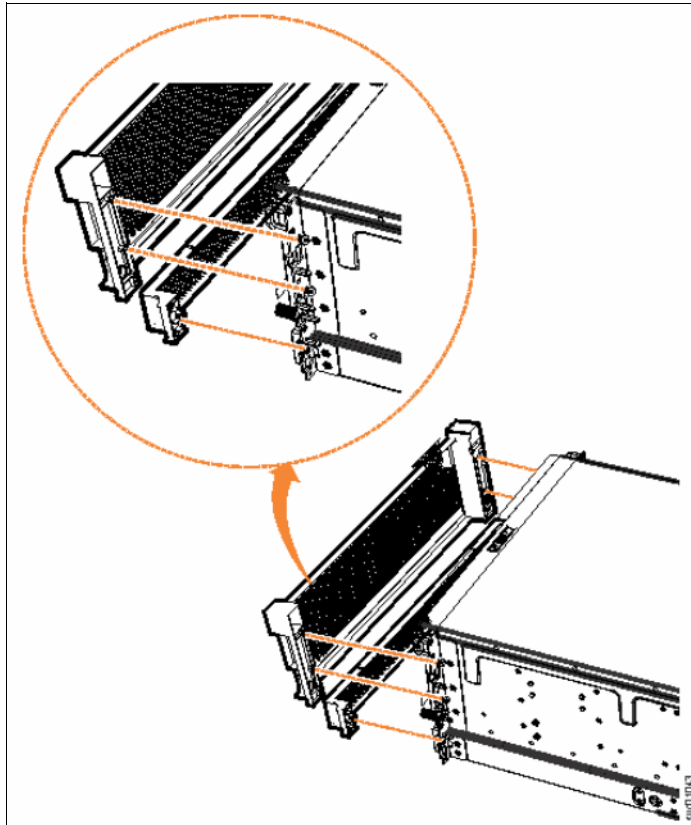

Figure 6-30 Installing fascia panels on the front of the expansion enclosure
- b. Align the front 4U fascia with the enclosure so that the thumbscrews go through the holes on each side. As Figure 6-30 shows, this action aligns the screw holes on the back of the fascia with the screw holes on the front flange of the enclosure.
- d. Attach the bottom 1U fascia that covers the power supply units (PSUs). Align the fascia with the enclosure and gently push it until it clicks into place on the chassis, as shown in Figure 6-30. Align the tab on each side of the 1U fascia with the corresponding slots on the enclosure flange. Pins on each flange must also align with a hole in each side of the 1U fascia.